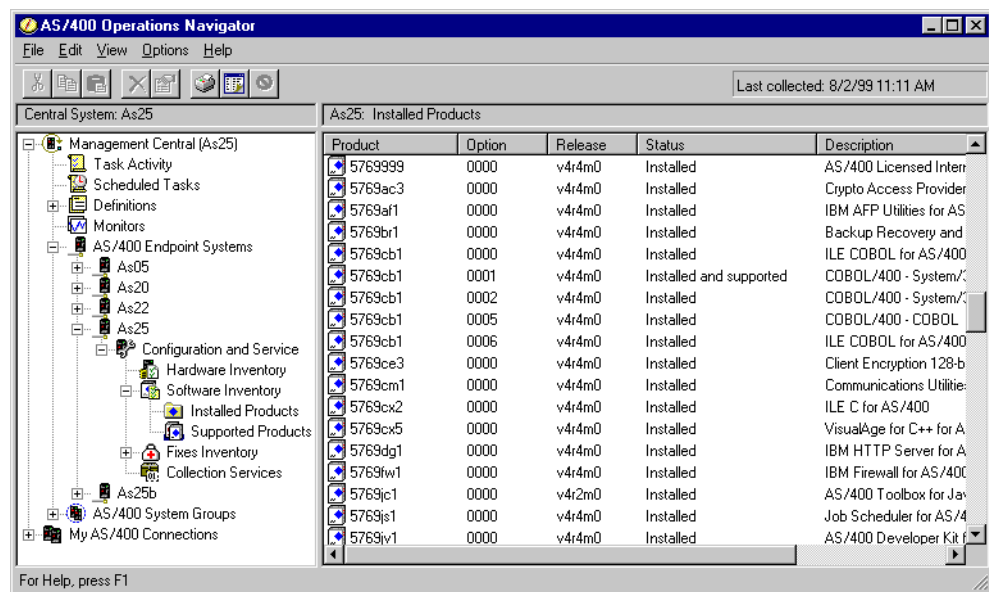

Figure 63. Software inventory output
3. Select the inventory you wish to view. The list is shown in the right panel of the window. A sample inventory output is shown in Figure 63.
Expand **Software Inventory** to view Installed or Supported Products. Software inventory has two categories (see Figure 63 on page 89 for an example): *Installed Products* and *Supported Products*.